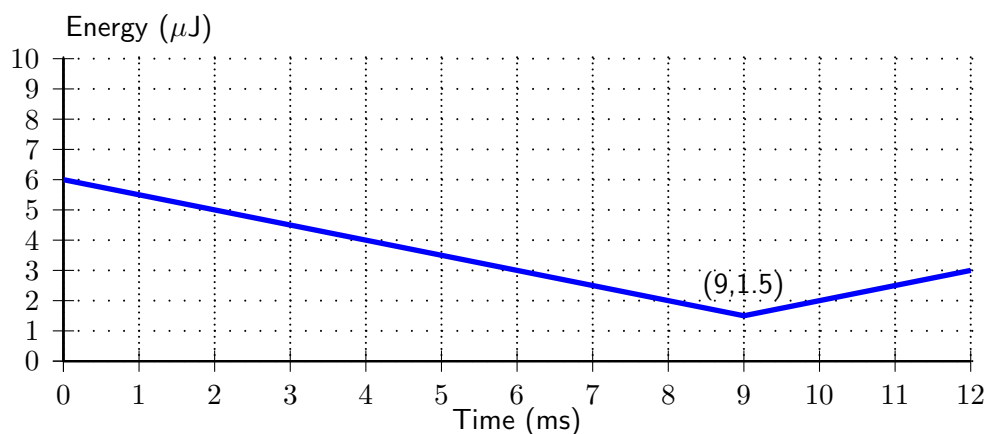

Figure 7: Battery energy diagram.
- (a) (9 Points) Assume  $C = 6 \mu\text{J}$ ,  $A = 0.5 \frac{\mu\text{J}}{\text{ms}}$  and  $f = 1 \text{ MHz}$ . Apply EDF scheduling and draw in Figure 7 the battery energy during the time interval  $[0 \text{ ms}, 12 \text{ ms}]$ .